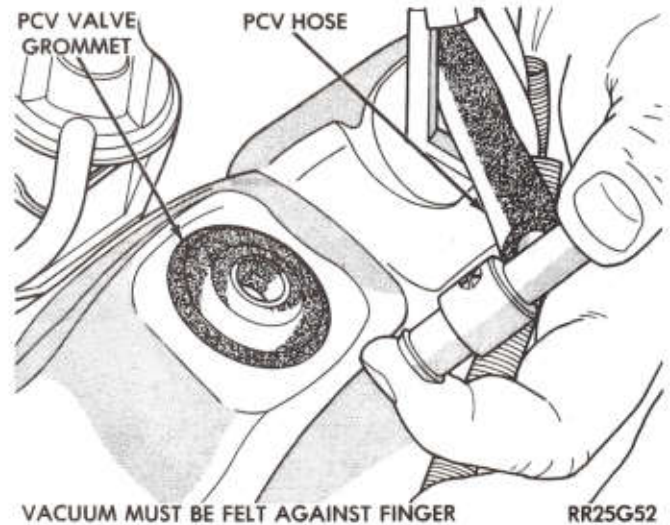

Fig. 14—Check Vacuum at PCV Valve
(1) With engine idling, remove PCV valve from cylinder head cover. If the valve is not plugged, a hissing noise will be heard as air passes through the valve and a strong vacuum should be felt when a finger is placed over the valve inlet. (Fig. 14).